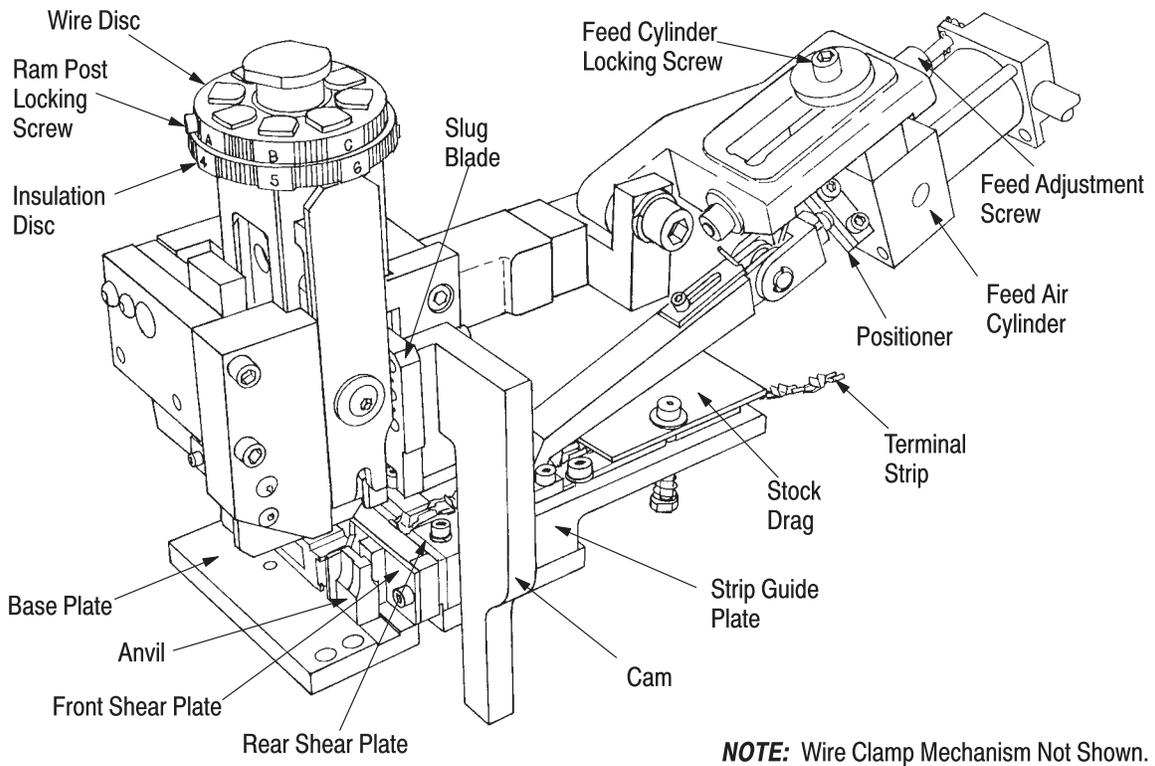

Figure 4
The applicator's mounting surface is its base plate. See Figure 4. The anvil and the strip guide plate are mounted on the base plate. The strip guides, stock drag, and front and rear shear plates are all mounted on the strip guide plate. The shear plates are spaced to allow the slug blade to pass between them and remove the connecting tab from between the terminals.
5.3. Terminal Strip Feed Adjustment (Figure 4)
a. Loosen the feed cylinder locking screw on top of the feed cylinder. See Figure 4.
b. Turn the feed adjustment screw (Figure 4) **clockwise** to retract forward limit or **counterclockwise** to extend forward limit of the stroke.
a. With the machine at rest and feed finger extended, loosen two screws holding positioner to feed cylinder shaft and move positioner in required direction on shaft. See Figure 4.